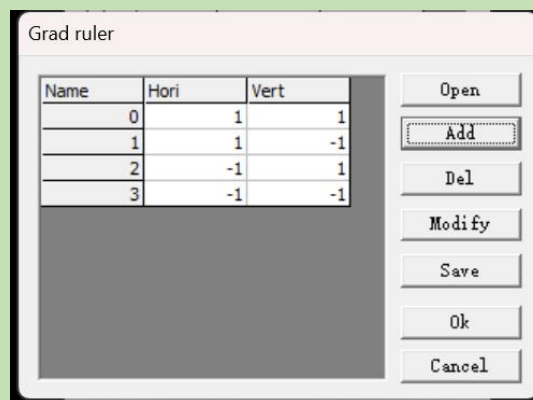

Figure10-28
- (1) Grading Types: (Refer to the operation methods in the intelligent mode).
- (2) Invoking Rules: Directly invoke the existing grading rules; Operation Method: Simply click on by ruler in the name column. As shown in Figure 10-28.
- (3) Open: Open the previously saved rule table.
- (4) Save : Save the modified rule table for future use.
- (5) Del: Delete a certain rule.
- (6) Modify: Modify the existing grading rules.